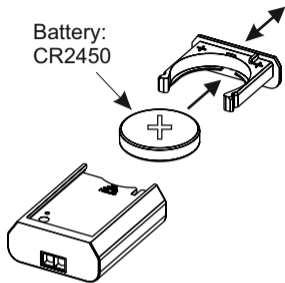

Fig. 1
- Battery mod. CR2450 (3V) lithium (Fig.1).
- Batterie Mod. CR2450 (3V) Lithium (Abb.1).